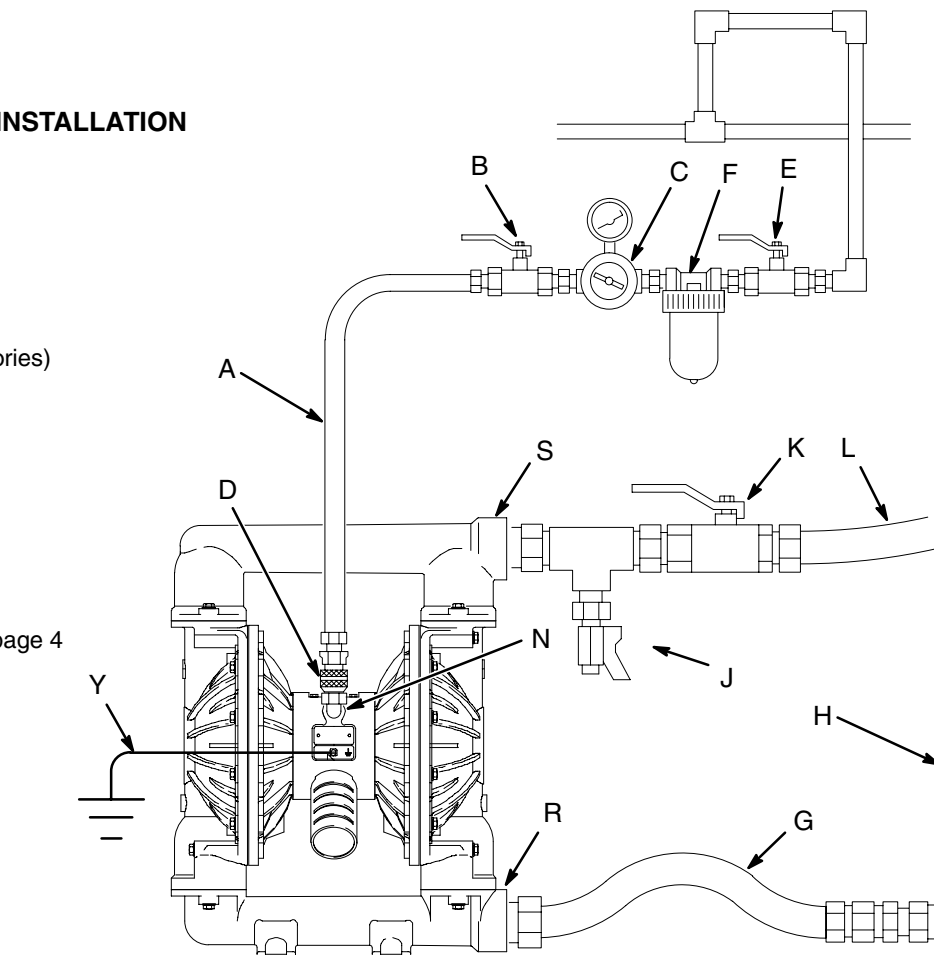

Fig. 2
- The Typical Installation shown in Fig. 2 is only a guide for selecting and installing system components. Contact your Graco distributor or Graco Technical Assistance (see back page) for assistance in planning a system to suit your needs.
A bleed-type master air valve (B) is required in your system to relieve air trapped between this valve and the pump. Trapped air can cause the pump to cycle unexpectedly, which could result in serious injury, including splashing in the eyes or on the skin, injury from moving parts, or contamination from hazardous fluids. See Fig. 2.
1. Install the air line accessories as shown in Fig. 2. Mount these accessories on the wall or on a bracket. Be sure the air line supplying the accessories is grounded.
- a. Install an air regulator (C) and gauge to control the fluid pressure. The fluid outlet pressure will be the same as the setting of the air regulator.
- b. Locate one bleed-type master air valve (B) close to the pump and use it to relieve trapped air. See the **WARNING** above. Locate the other master air valve (E) upstream from all air line accessories and use it to isolate them during cleaning and repair.
- c. The air line filter (F) removes harmful dirt and moisture from the compressed air supply.
2. Install a grounded, flexible air hose (A) between the accessories and the 1/2 npt(f) pump air inlet (N). See Fig. 2. Use a minimum 1/2" (13 mm) ID air hose. Screw an air line quick disconnect coupler (D) onto the end of the air hose (A), and screw the mating fitting into the pump air inlet snugly. Do not connect the coupler (D) to the fitting until you are ready to operate the pump.
A fluid drain valve (J) is required to relieve pressure in the hose if it is plugged. The drain valve reduces the risk of serious injury, including splashing in the eyes or on the skin, or contamination from hazardous fluids when relieving pressure. Install the valve close to the pump fluid outlet. See Fig. 2.
1. Use grounded fluid hoses (L). The pump fluid outlet (S) is 2" npt(f). Screw the fluid fitting into the pump outlet securely.
2. Install a fluid drain valve (J) near the fluid outlet. See the **WARNING** above.
3. Install a shutoff valve (K) in the fluid outlet line.
4. Place the end of the fluid hose (L) into an appropriate container.
5. Close the fluid drain valve (J). See Fig. 2.
6. With the pump air regulator (C) closed, open all bleed-type master air valves (B, E).
8. Slowly open the air regulator (C) until the pump starts to cycle. Allow the pump to cycle slowly until all air is pushed out of the lines and the pump is primed.
1. Fig. 2 and Parts Drawings. Follow preceding steps 1 through 7 of **Starting and Adjusting Pump**.
2. Open air regulator (C).